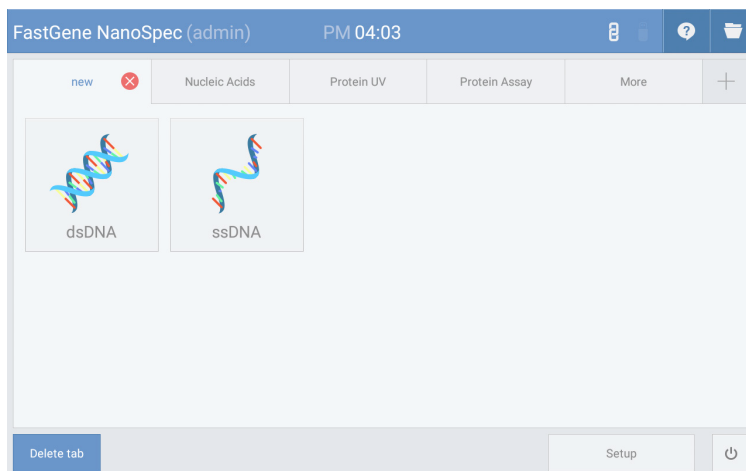
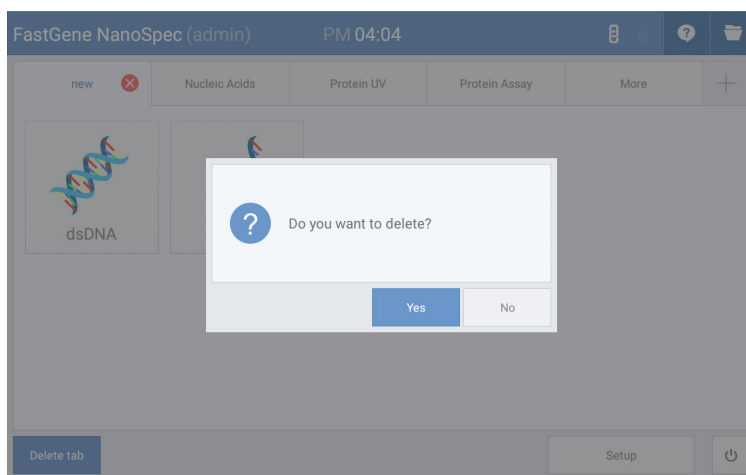

Fig. 1.6
Fig. 1.7
5. [Fig. 1.6], [Fig. 1-7] Click the "X" icon displayed next to the tab name after selecting the user menu (tab) to be deleted, and click "Delete user menu" at the bottom of the screen to delete the user menu.